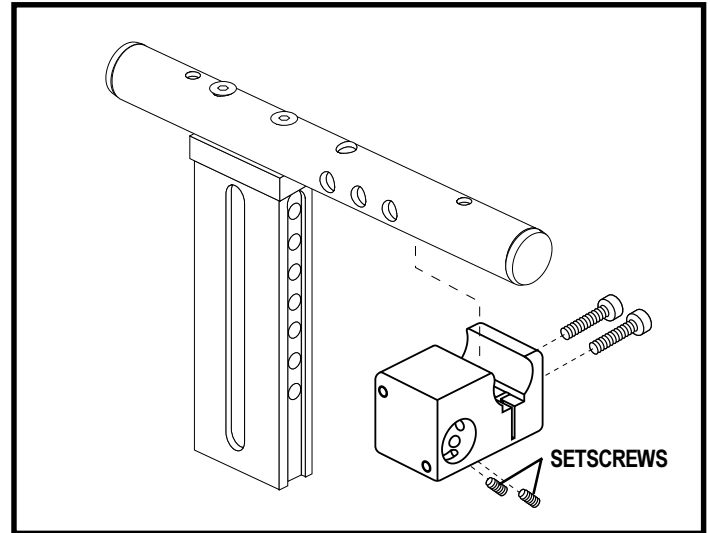

Figure 13. Controller Mount
6. Loosen the setscrews on the controller mount. See figure 13.
3. Loosen the setscrews on the the controller mount. See figure 13.